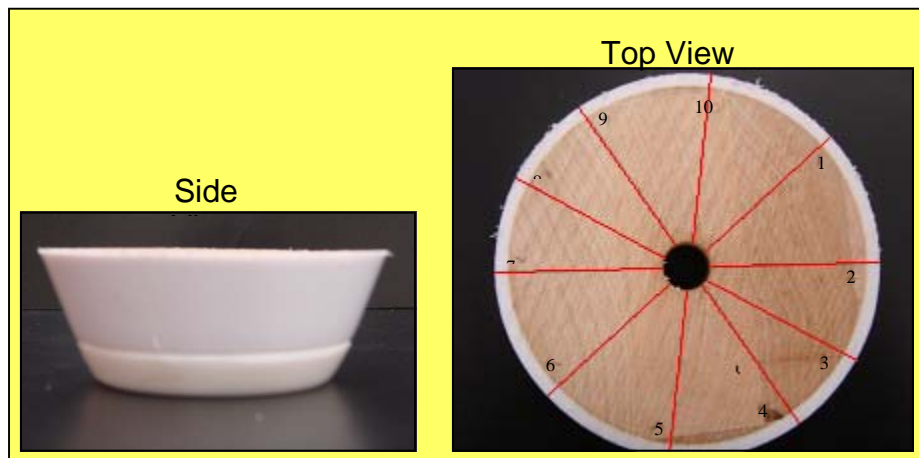

Figure 1 - Side and top view of base segment of the bowling pin. The top view shows the 10 divisions drawn on the segment for later analysis.
4. Set the base segment of the bowling pin on a work surface and draw 10 “pie slices” on the top of the segment and number each section 1-10 with the pencil and straight edge as seen in figure 1.